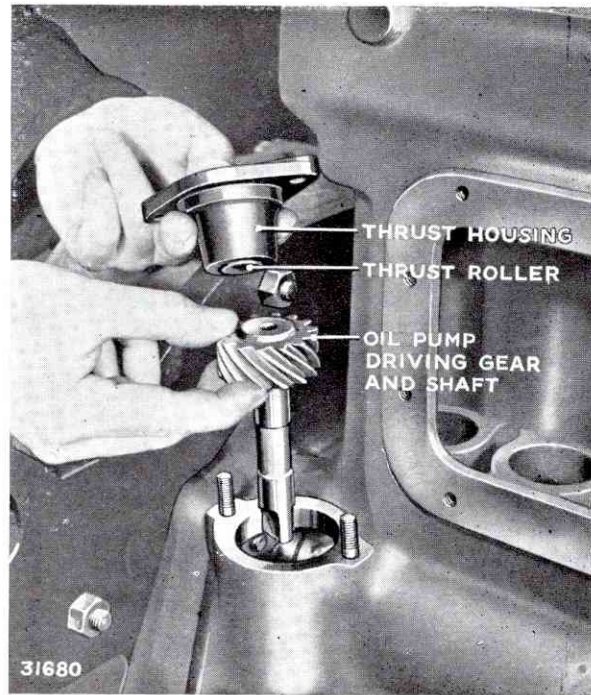

FIG. 12. FITTING OIL PUMP DRIVE GEAR AND THRUST HOUSING
3. To inspect the oil pump driving gear. Remove the thrust housing on the rear right-hand side of the engine block and withdraw the gear, Fig. 12. Backlash between the two gears should be .004/.008 in. (.1016/.2032 mm.).